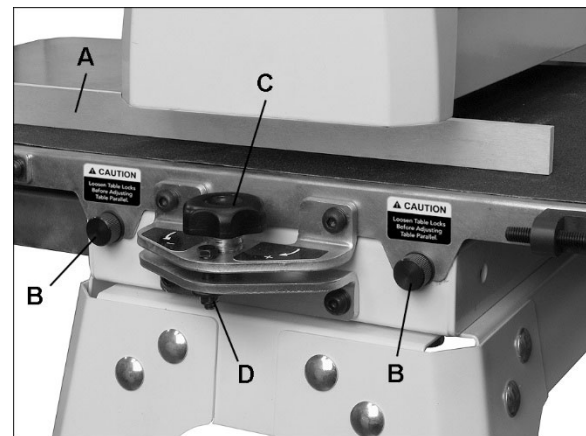

Figure 8-3: drum alignment
3. Insert gauge between drum and conveyor table at outboard side of drum (A, Figure 8-3).
- Loosen both table locking screws (B, Figure 8-3)
- Turn knob (C) to raise or lower outboard end of table. Follow directional marks on label (+ raises, - lowers).
- Retighten table lock screws (B).
- If a ridge is visible where the drum overlaps, lower table at outboard end slightly by turning knob (C, Figure 8-3).
**Note:** When sanding narrow stock (less than 16"), return conveyor table to parallel position. Turn knob opposite direction until lock nut (D, Figure 8-3) is contacted. The lock nut provides a positive stop for table parallelism.